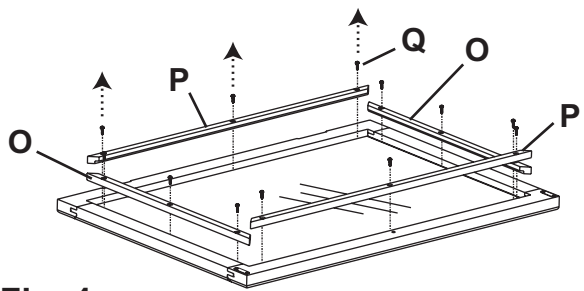

Fig. 4
- To finish the Door Frame (Ha), you must first remove the Door Glass (la). Remove the door from its hinges and lay it face-down on a clean, protected surface. Remove the #6 x 3/4" Brass Flat Head Screws, (Q) the Door Glass Support Stiles (P), Door Glass Support Rails (O) and set aside. Carefully lift the Door Glass (la) and put it safely away. Finish the door frame, stiles and rails and, after the finish dries, replace the glass and attach the Door Glass Support Rails (O) and Door Glass Support Stiles (P) with #6 x 3/4" Brass Flat Head Screws (Q). See Figures 4, 4a and 4b. Rehang the door.